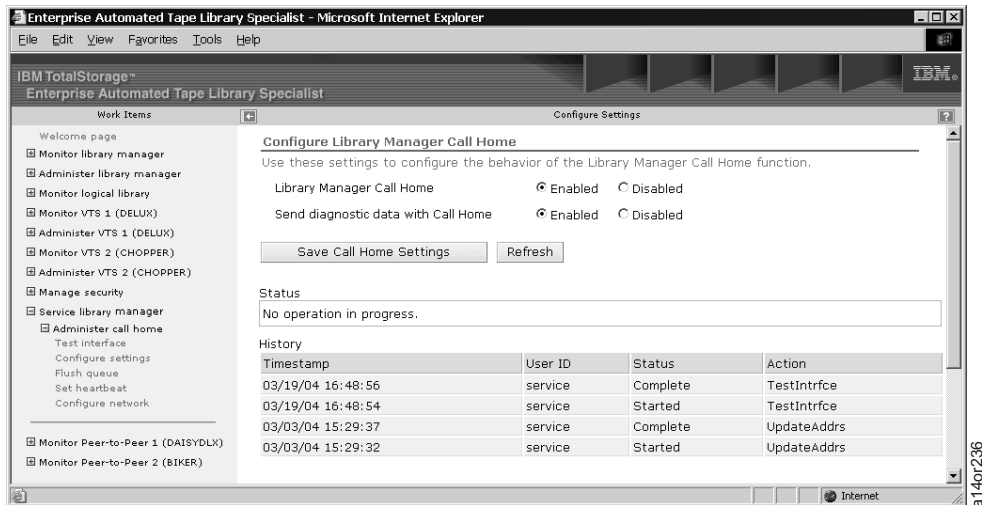

Figure 2-45. 3494 ATL Web Specialist - Configure Settings
1. From the "Administer call home" list on the Web Specialist screen (Figure 2-43 on page 2-30), click **Configure settings** to see Figure 2-45 on page 2-32. If you are prompted for a userid and password, use the default values of **service** for the userid and **service** for the password. These values can be changed by the 3494 ATL system administrator.